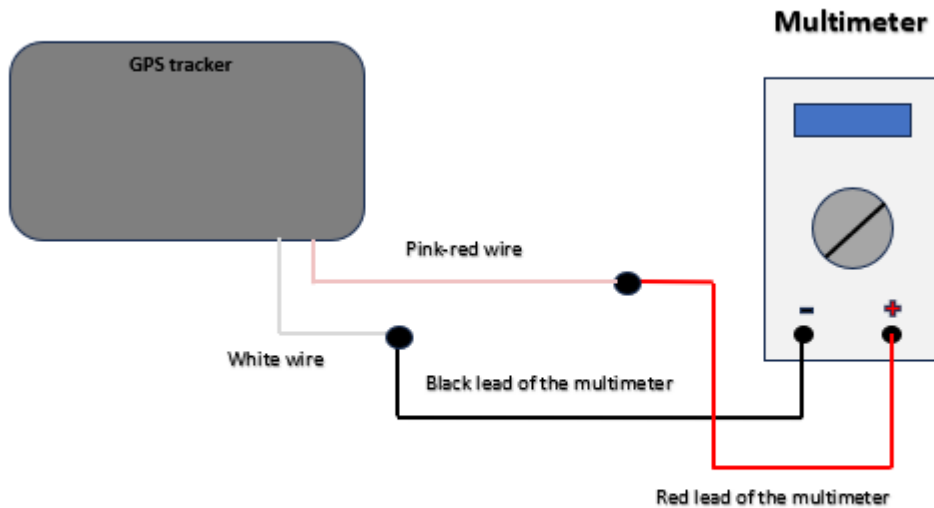

Fig. 12 Connection Diagram
2. Assemble the connection circuit according to "Fig. 12 Connection Diagram."